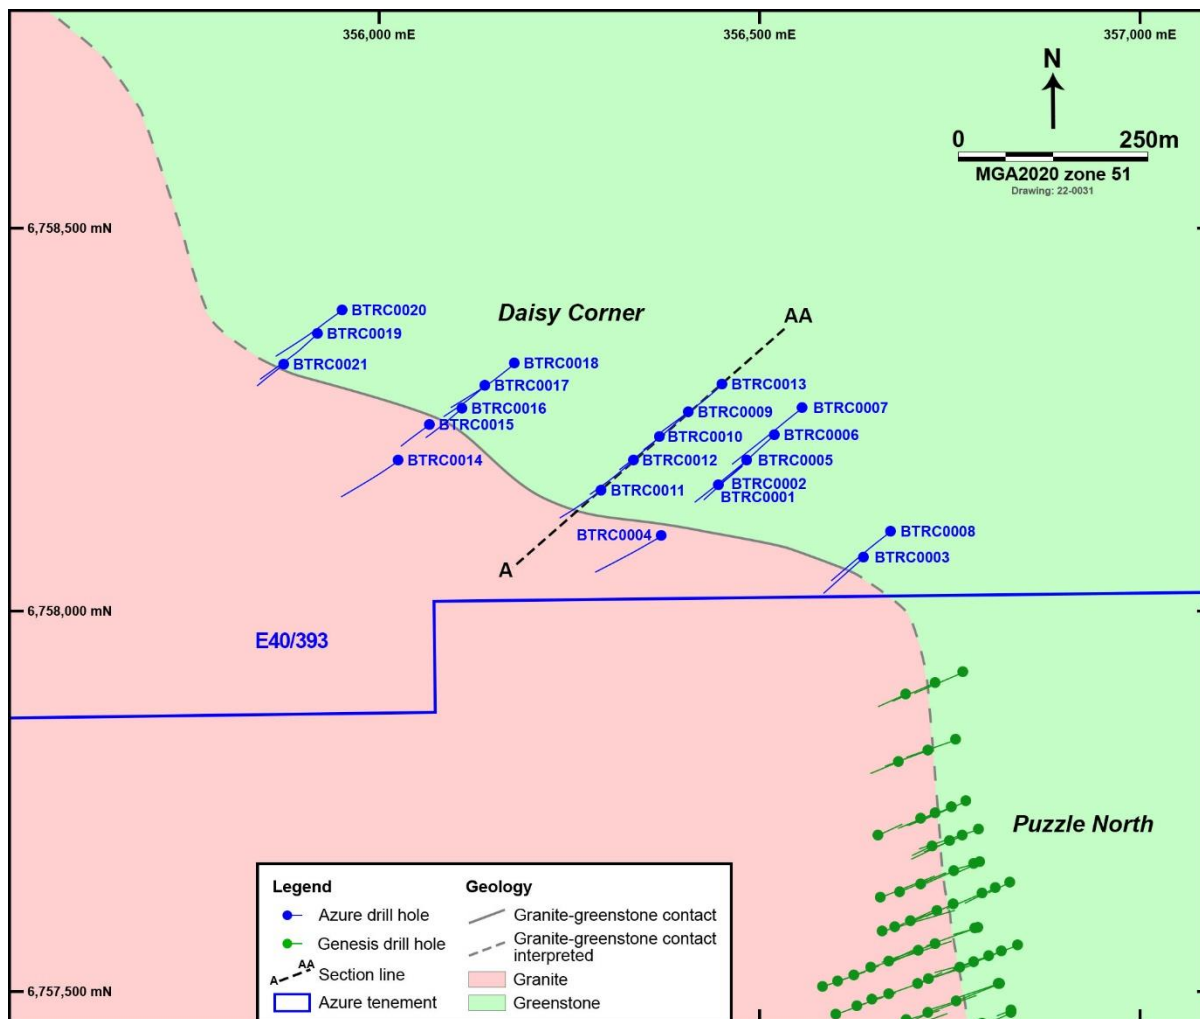

Figure 2: Drilling at Azure's Daisy Corner prospect
Azure’s first drilling program on the Barton Project comprised 21 Reverse Circulation (RC) holes for 3,473m targeting northern mineralised extensions of the Puzzle North gold deposit. Drilling tested 800m of the prospective granite-greenstone contact to the northwest of the Azure-Genesis tenement boundary on section lines spaced 100m to 200m apart (see **Figures 2 and 3**).